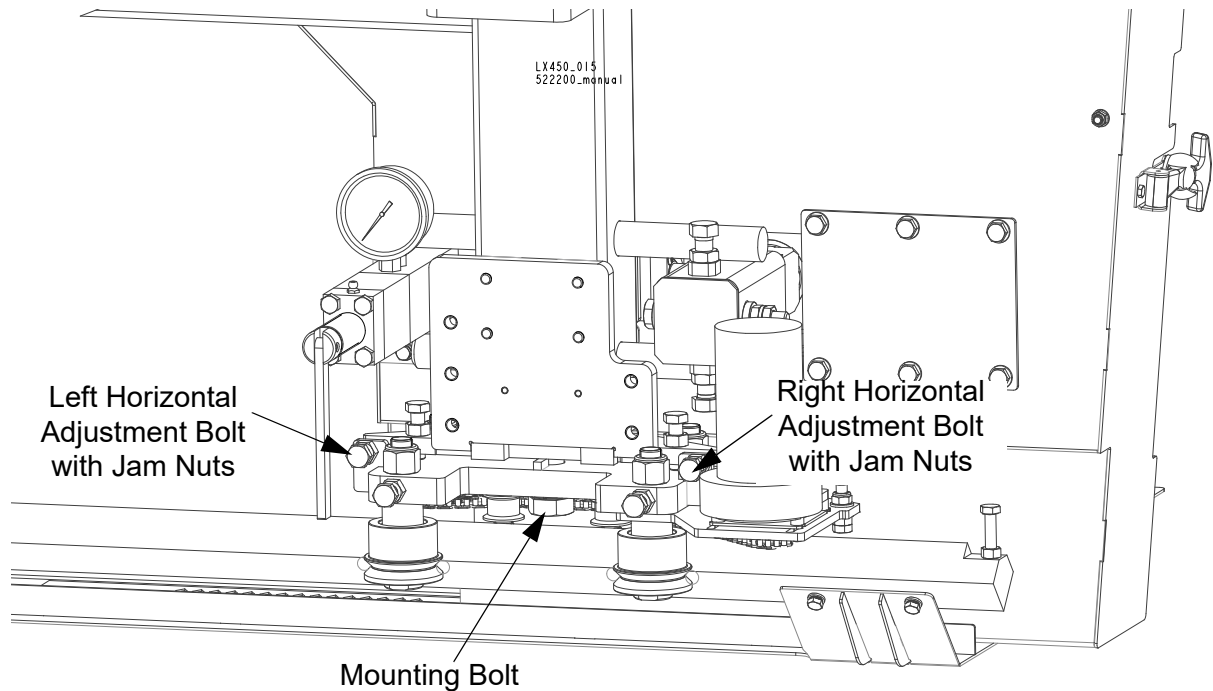

FIG. 5-19
**See Figure 5-19.** Loosen the mounting bolt. Loosen the horizontal adjustment bolt jam nuts. To tilt the arm in toward the blade, loosen the right bolt and tighten the left bolt. To tilt the arm out away from the blade, loosen the left bolt and tighten the right bolt. Re-tighten the jam nuts and recheck the